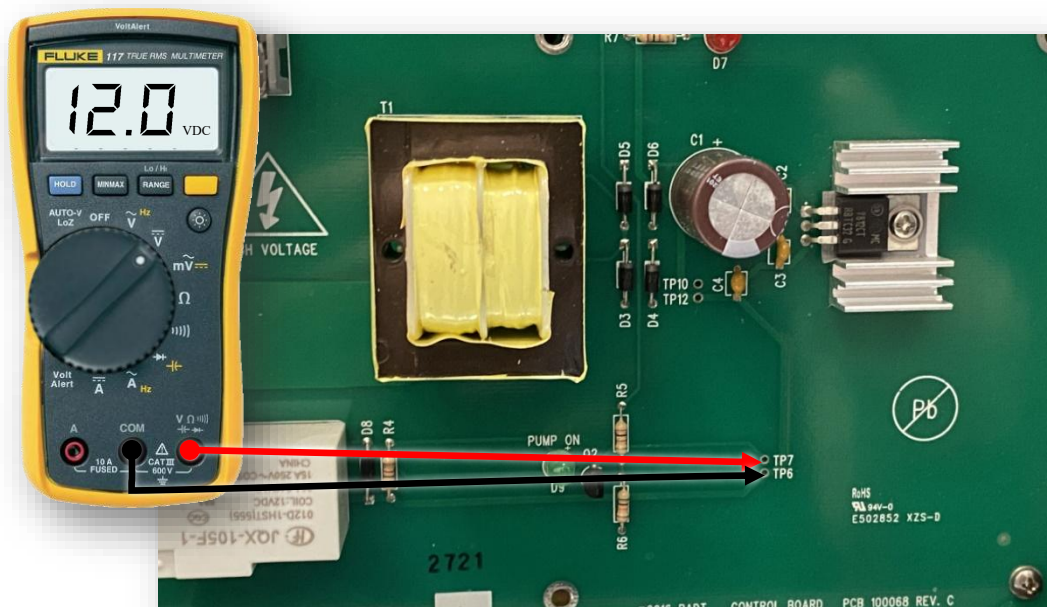

Figure 21 – Pump Enable Signal
- d. Set the multimeter to the DC Voltage Selection  and check the Motor Enable Signal on the PCB. The Pump Motor Enable Signal to the Pump Motor Relay can be measured between TP7 (Motor Enable Signal) and TP6 (**See Figure 21**).